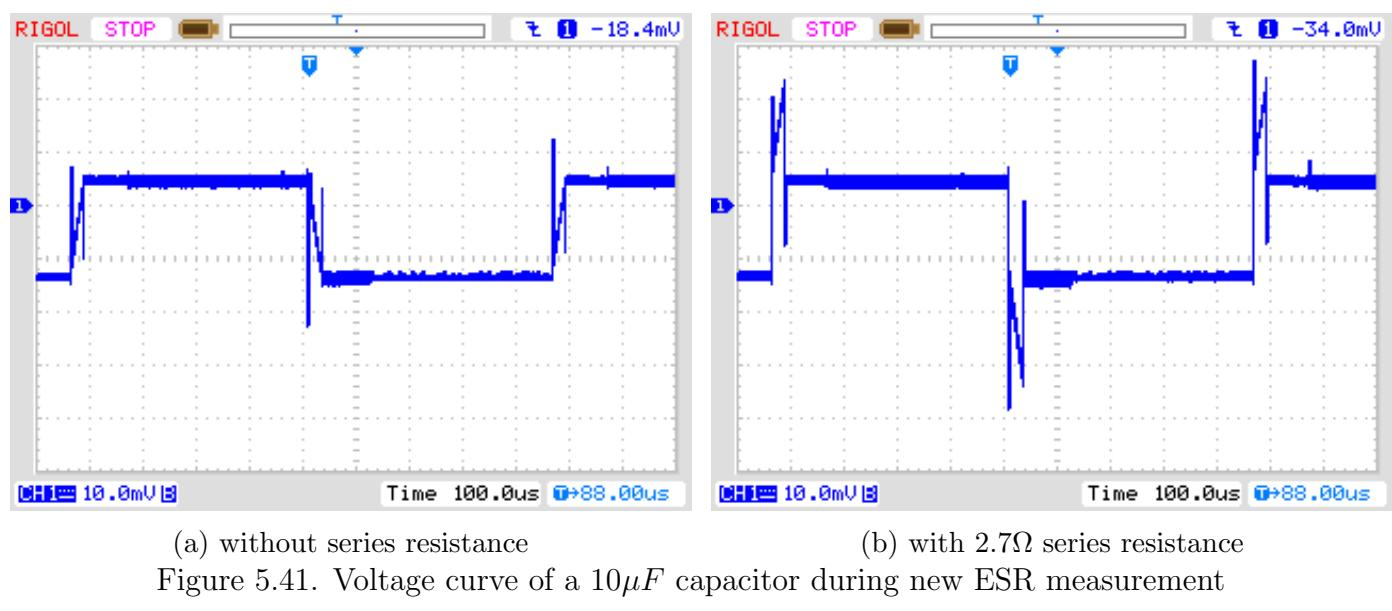

Figure 5.41. Voltage curve of a $10\mu F$ capacitor during new ESR measurement
Due to the shorter load puls not only the ESR of capacitors with lower capacity can be measured, but this way of measurement can also be used for the measurement of resistors with little resistance, if they don't have a detectable inductance. By doing that, a resolution of 0.01Ω for this resistors can be achieved. Also the zero resistance can be detected by the calibration part of the selftest for all three test pin combination. You should keep in mind, that stable plug sockets or clamping connectors are essential for stable results. The measurement periode is about $900\mu s$, which results to a frequency of about $1.1kHz$. Because the load pulse is very short, the measurement result is comparable to measurements with $10kHz$. A measurement example with a $10\mu F$ foil capacitor, once measured alone and once measures with a 2.7Ω series resistor is shown in figure 5.41. You can see the effect of the additional resistance by comparing both diagrams. You can see also, why the ADC measurement (SH) should point to the middle of the load pulse. With big capacity values the load current is nearly stable during the total pulse length, so you will get the middle voltage at the middle time of the load pulse. With lower capacity values you will get a significant difference, which can be compensated by the known capacity value.